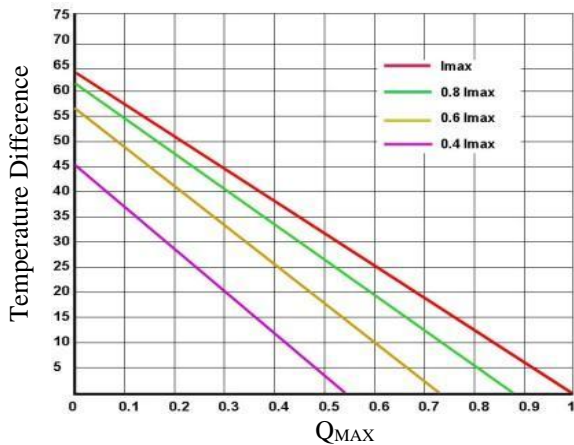
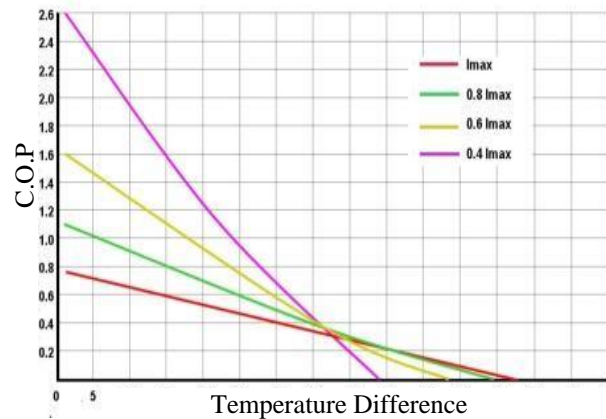

Figure 2. Temperature Difference vs.  $Q_{MAX}$
Figure 5. C.O.P vs. Temperature Difference
- Use the charts provided in Figure 2 to Figure 5 and Figure 6 to Figure 9, to decide which TEC to use, what is the heat needed to be dumped through the heat sink, what is the heat sink temperature, etc.